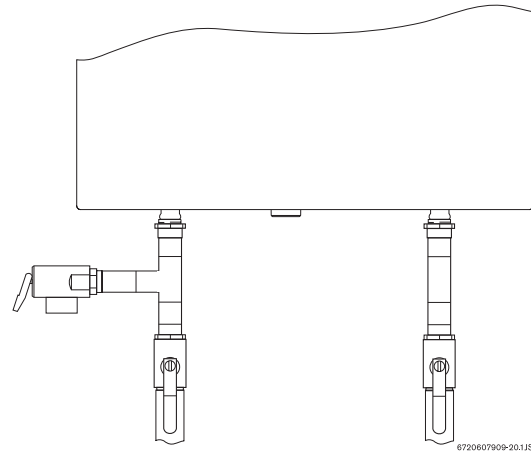

Fig. 24 Plumbing Connections and Pressure Relief Valve
- ▶ Full port valves should be installed on both the cold water supply and hot water outlet lines to facilitate servicing the water heater (see Fig. 24).
reducing coupling or other restriction may be installed in the discharge line. The discharge line must be a minimum of 4" above a drain and installed such that it allows complete drainage of both the PRV and the line. The location of the PRV must be readily accessible for servicing or replacement, and be mounted as close to the water heater as possible. See Fig. 24. To install the PRV, a suitable fitting connected to an extension on a "T" fitting can be sweated to the hot water line. Support all piping.